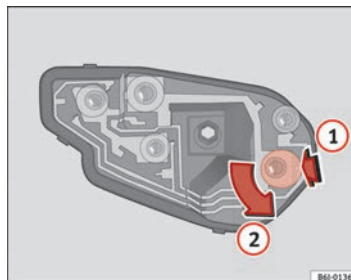

Fig. 164 Changing bulbs on tail lights
- Once the bulb holder has been removed, press downwards in the direction of the arrow **①** and at the same time, turn in the direction of the arrow **②** ⇒ Fig. 164.